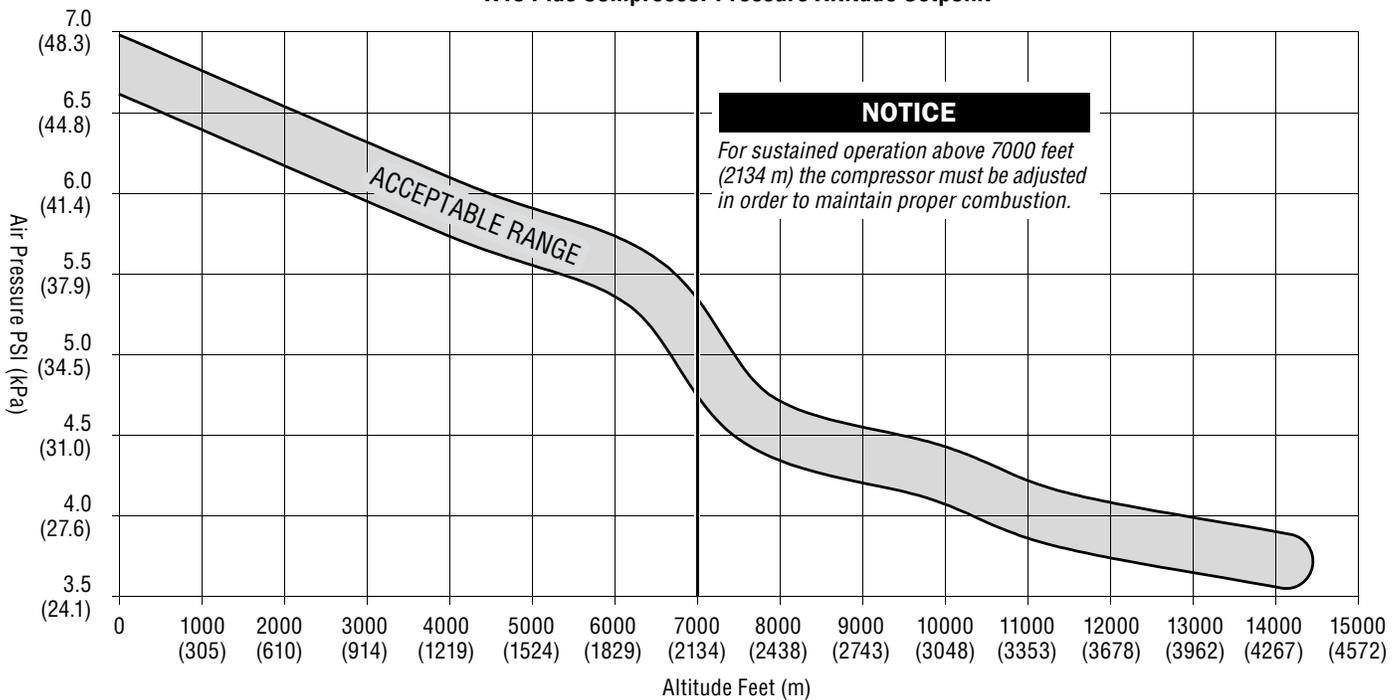

Figure 4-20. System Air Pressure Chart
7. The reading must be within the range of the shaded area as shown in figure 4-20.
Altitude correction is needed above 7,000 feet (2134 m) (see figure 4-20).